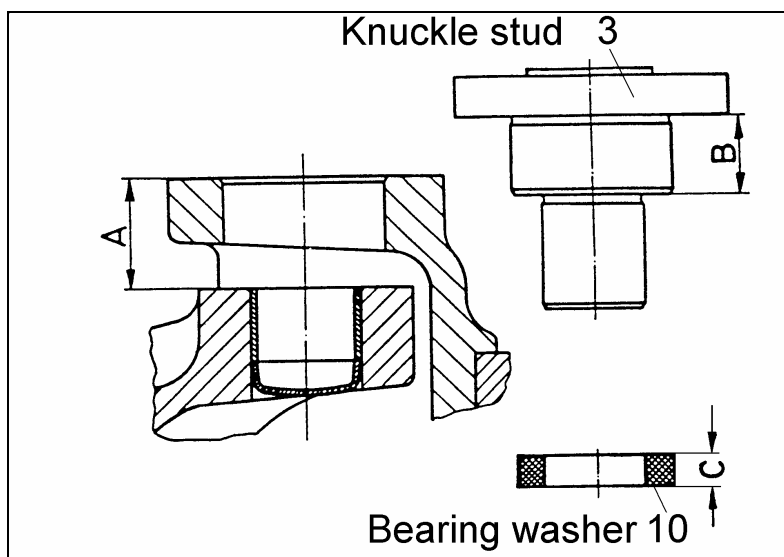

Fig. 14
- Measure distance from top of steering knuckle to the plane surface of the axle beam. (Measurement A / Fig.14)
- Measure flange step of steering knuckle stud (No.3) (Measurement B / Fig.14)
- Calculate bearing washer: (Measurement C / Fig.14)